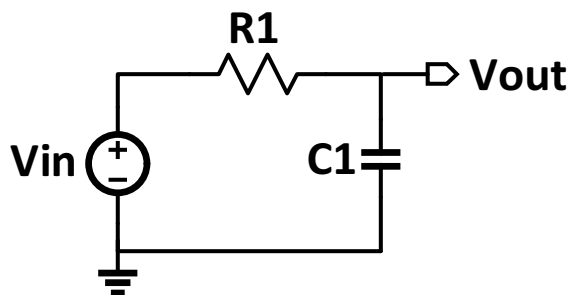

Figure 4: First Order RC Filter
1. Consider the first order RC circuit shown in Fig. 4. Compute the value of C so that the **3 – dB** cut-off frequency is at **160Hz**.
2. Draw the circuit shown in Fig. 4 in LTspice. Use the capacitor value that you calculated above.